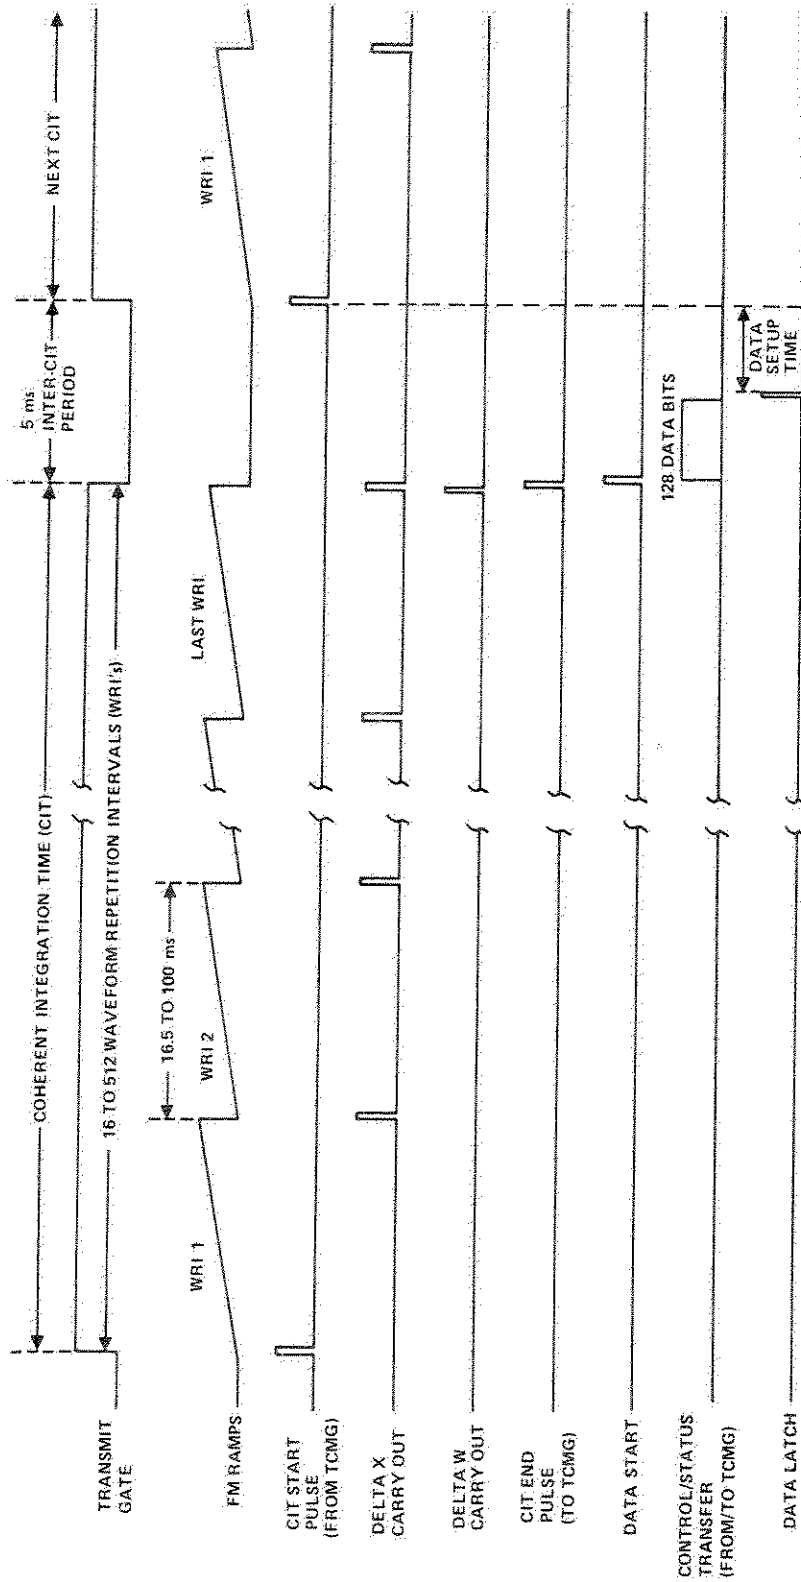

Figure 5-9. Simplified Coherent Integration Time Timing
5-5.3.1.2 Coherent Integration Time Timing. Figure 5-9 is a simplified diagram that illustrates CIT
7. Timing control No. 1 receives the data latch and CIT start pulses from the control I&D board. These are the same signals that are sent from TCMG to end the serial control message transfer and start the CIT, respectively. The time interval between the receipt of data latch and the start of CIT is referred to as the inter-CIT period or data setup time (Figure 5-9). The inter-CIT interval is set at 5 milliseconds. During this interval, timing